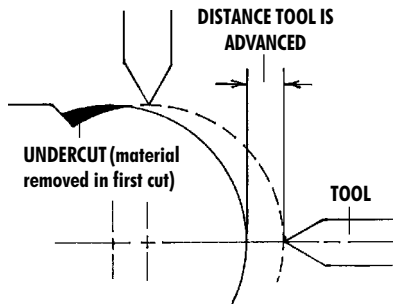

FIGURE 2—The area in black illustrates why you don't want to cut past top dead center until you know you are at final size.
3. Remember that the tool will cut the full amount it has been advanced at the center but will not reduce the diameter at the top and bottom of the part. (See Figure 2 above.) If you move the tool past the top dead center before the tool is cutting at its final position you will undercut the opposite side of the ball. This makes it wise to stay back 10° or so from top dead center until the tool has reached its final position. This creates a “damned if you do and damned if you don’t” problem. If you don’t cut over the top you can’t accurately check the diameter of the ball, and if you do you may scrap out your part. The easiest way out of this situation is to set up on a scrap piece and get the tool set. The radius remains set even if the attachment is removed and replaced on the lathe as long as the tool isn’t moved in the radius cutter body.